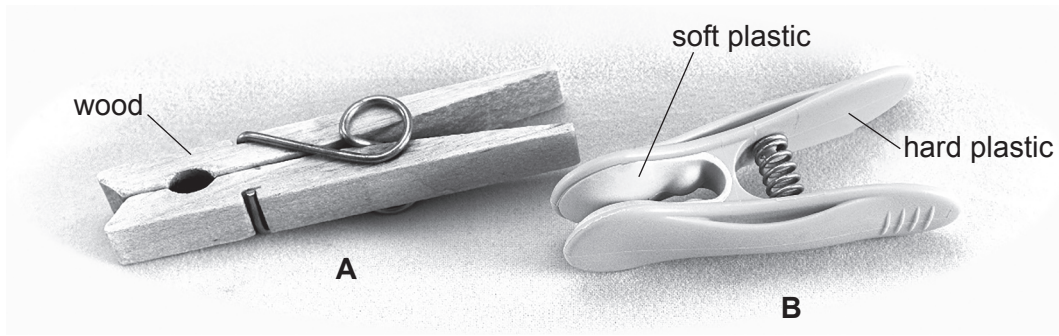

Fig. 11.2
- (b) Fig. 11.2 shows two types of clothes peg used to secure clothes to a washing line. Both types of clothes peg use leverage when in use.